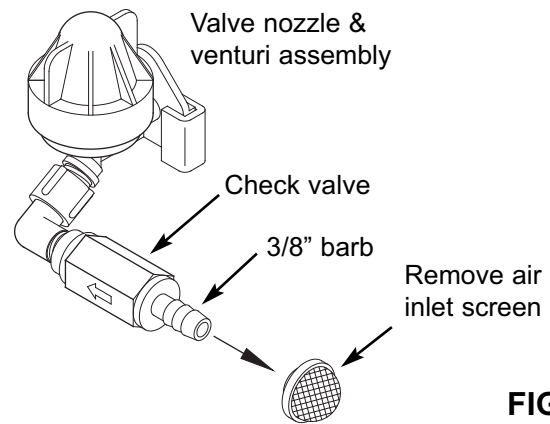

FIG. 13
2. Remove air inlet screen from check valve on the valve's nozzle & venturi assembly (See Figure 13).